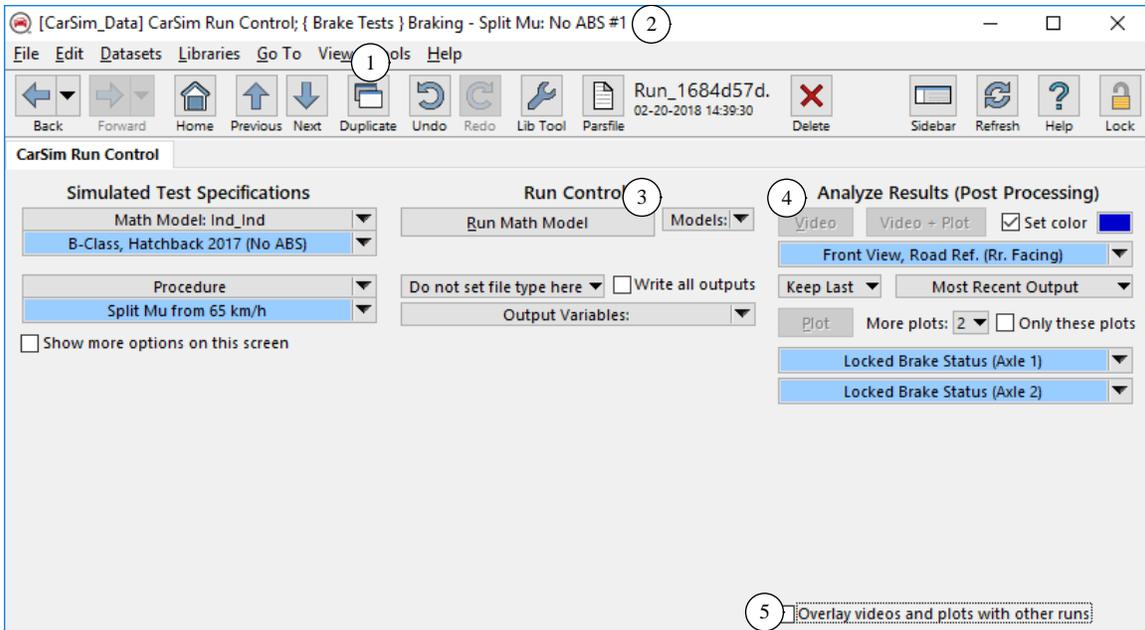

Figure 4. Duplicate of Run Control dataset for brake test without ABS.
2. Create a copy of the example dataset by clicking the **Duplicate** button (1) (Figure 4). You can accept the default of appending #1 to the original name (2).
3. Uncheck the box **Overlay videos and plots** (5) to disable any overlays.
4. Click the **Run Math Model** button (3). In a second or so, the simulation will complete and the Video and Plot buttons will become active.
5. Click the **Video** button (4) to view the simulation results. You should see unstable vehicle behavior without ABS. Close VS Visualizer when you are through.